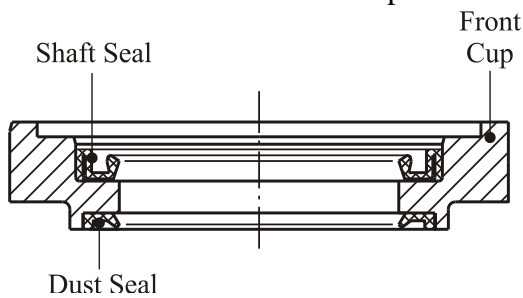

Fig.5
12. Remove with screwdriver Dust seal and Shaft seal from front cup (see Figure 5).